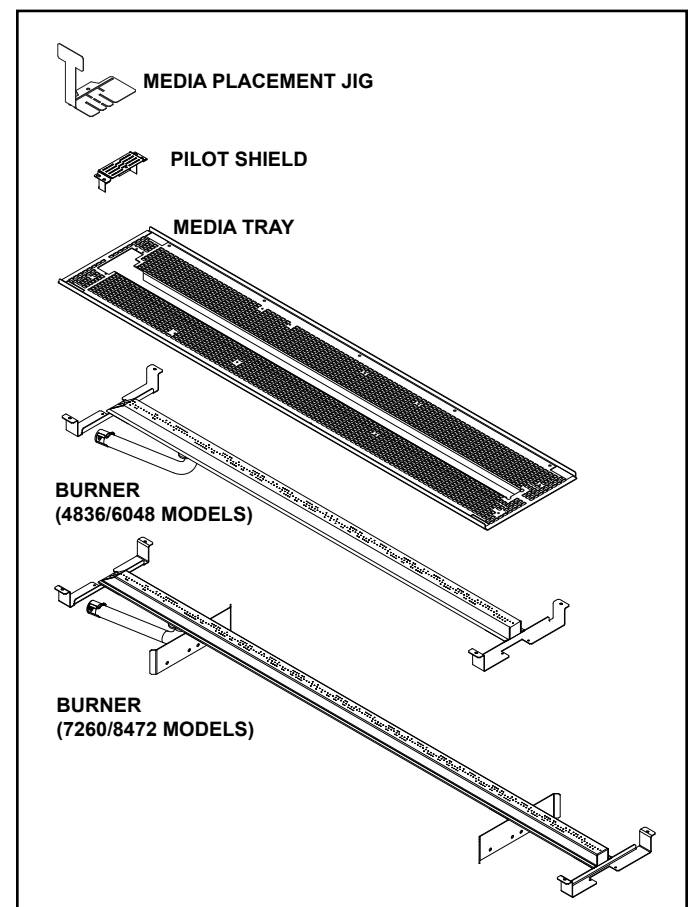
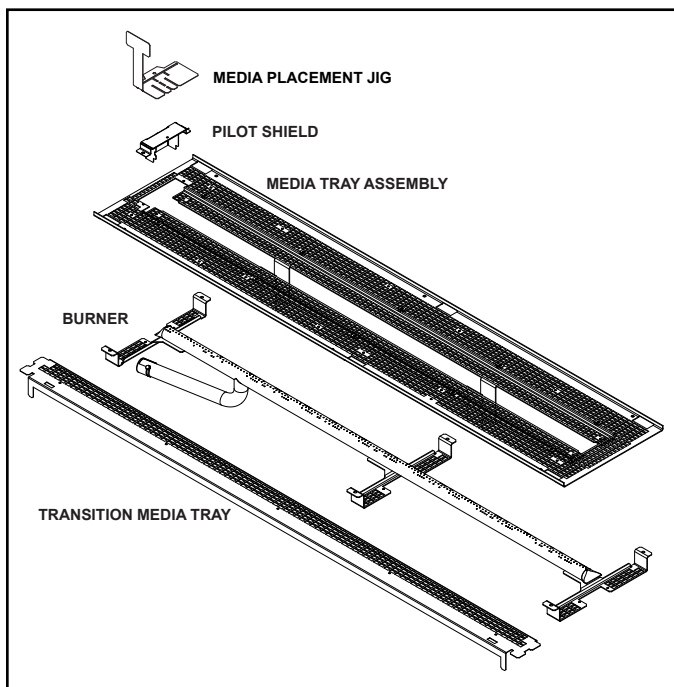
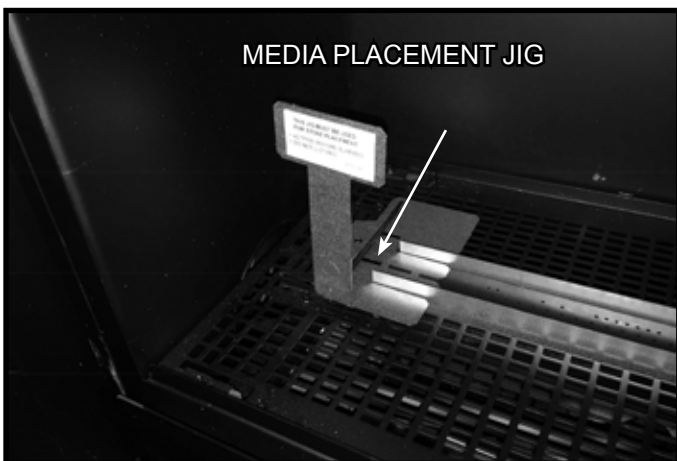

Figure 2. Media Tray Components - MEZZO/CRAVE
Figure 3. Media Tray Components - PRIMO
Figure 4. Media Placement Jig Location - MEZZO/CRAVE/PRIMO
2. The included media placement jig, shown in Figure 2 (MEZZO/CRAVE) and Figure 3 (PRIMO), MUST be used any time media are placed on the burner to ensure that none end up in the burner lighting area. Verify that the media placement jig is correctly installed in place in the appliance. See Figure 4.